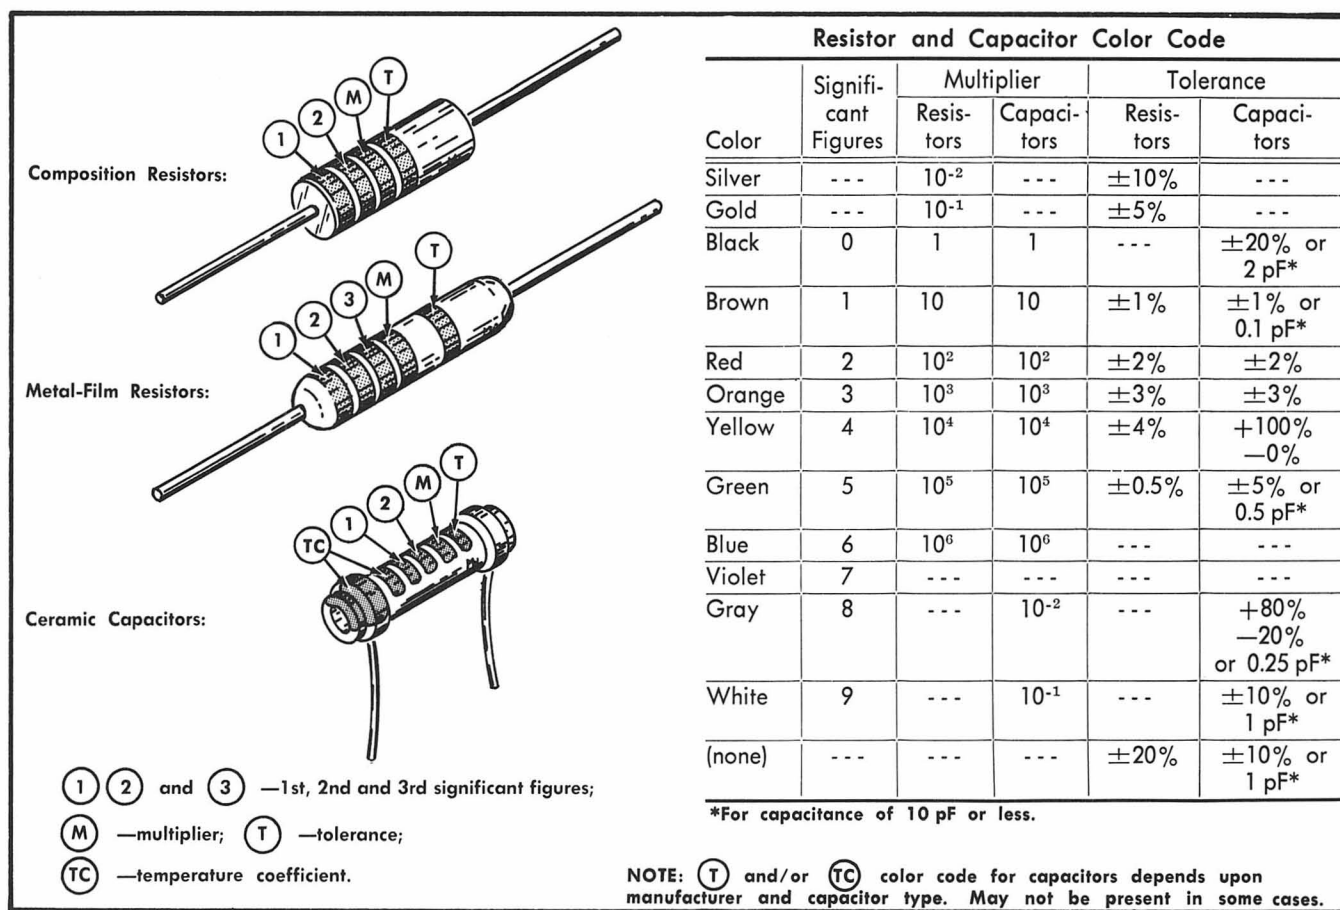

Fig. 4-1. Resistor and ceramic capacitor color code.
**Resistor Color Code.** In addition to the brown composition resistors, some metal-film resistors and some wire-wound resistors are used in Type 601. The resistance values of wire-wound resistors are printed on the body of the component. The resistance values of composition resistors and metal-film resistors are color-coded on the components (some metal-film resistors may have the value printed on the body) with the EIA color code. The color code is read starting with the stripe nearest the end of the resistor. Composition resistors have four stripes which consist of two significant figures, a multiplier and a tolerance value (see Fig. 4-1). Metal-film resistors have five stripes consisting of three significant figures, a multiplier and a tolerance value.
**Capacitor Marking.** The capacitance values of common disc capacitors and small electrolytics are marked in microfarads on the side of the component body. The white ceramic capacitors used in the Type 601 are color coded in picofarads using a modified EIA color code (See Fig. 4-1).